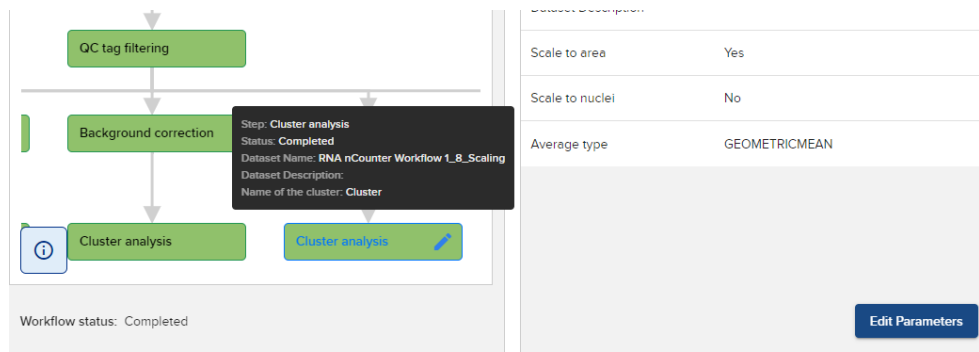

Figure 50: Edit parameters and pencil icon.
5. To edit the parameters for a particular step, click the **pencil** icon next to the step name in the Workflow Structure pane, or **Edit Parameters** in the Selected Step Settings pane (see Figure 50).